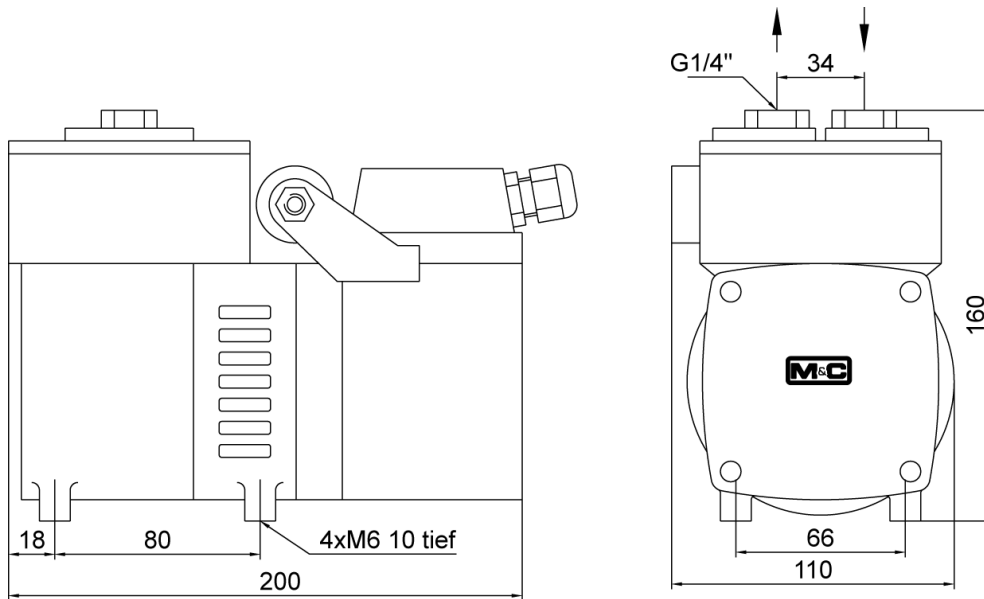
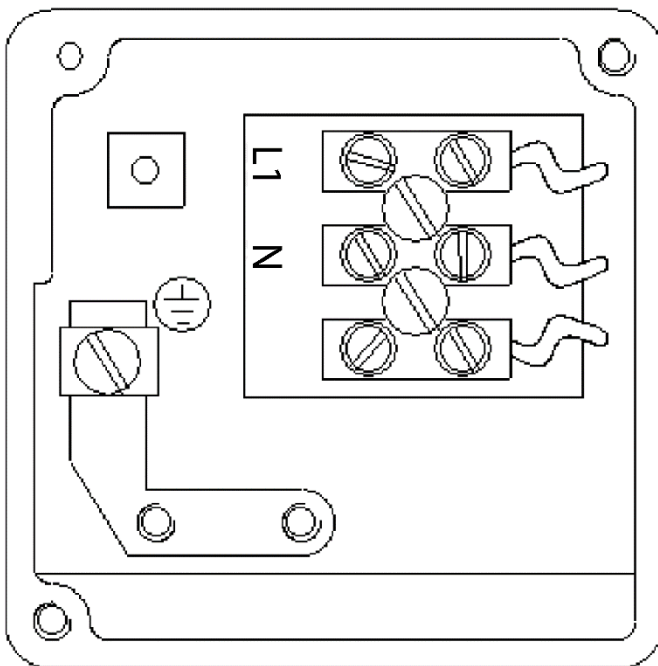

Figure 7 Dimensions (mm) pump MP47..
Figure 8 Electrical connection of the pump
- The dimensions of the mountings are given in figure 7 and figure 8.
- Put the cable through the cable gland and connect it according to figure 8. The connections are marked in the connection box.